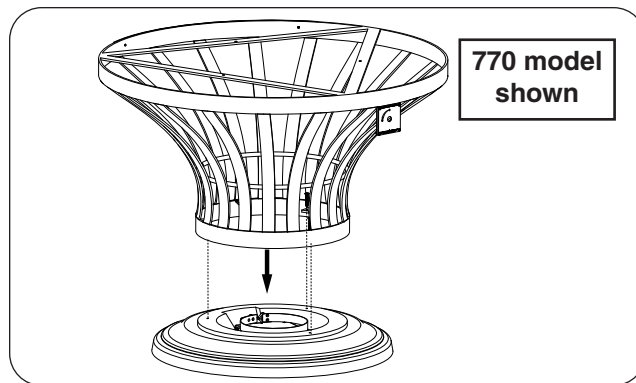

Fig. 30-1 Place base and fasten
1. **Carefully** remove the valve and burner assembly from the base, then **carefully** place the base bottom and base in an appropriate location (see Fig. 30-1, and refer back to the LOCATION section if needed).
2. Use a Phillips screwdriver and the supplied concrete screws (3) to fasten the base bottom to the base as shown in Fig. 30-1.